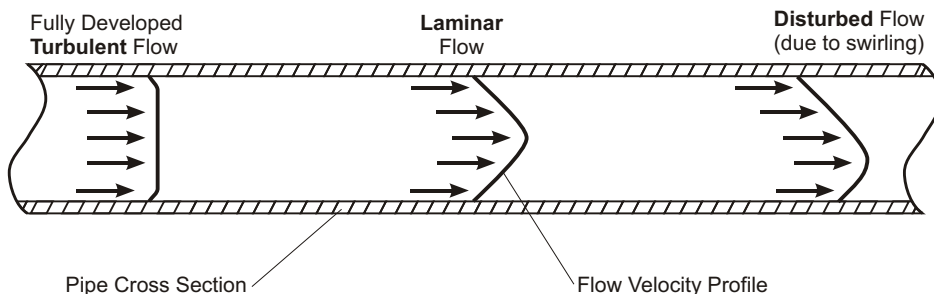

Fig. 2
- There are two basic types of flow profiles; **turbulent** and **laminar** (see figure 2).